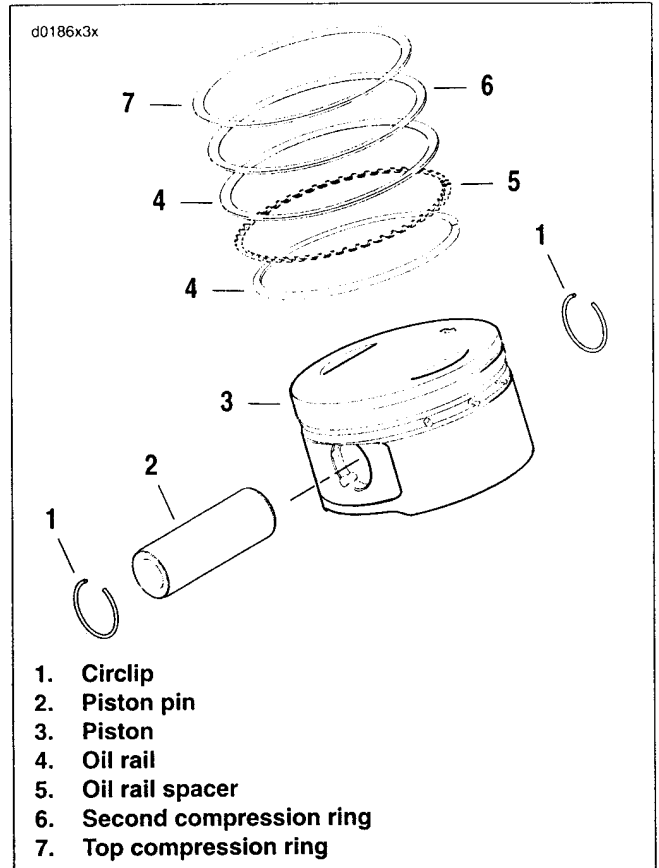

Figure 3-113. Piston Assembly
1. See Figure 3-113. Carefully remove top (7) and second (6) compression rings using the proper piston ring expander (Snap-On PRS8).
2. Using your fingers, remove the oil rail spacer (5) from the third ring groove. Remove top and bottom oil rails (4).